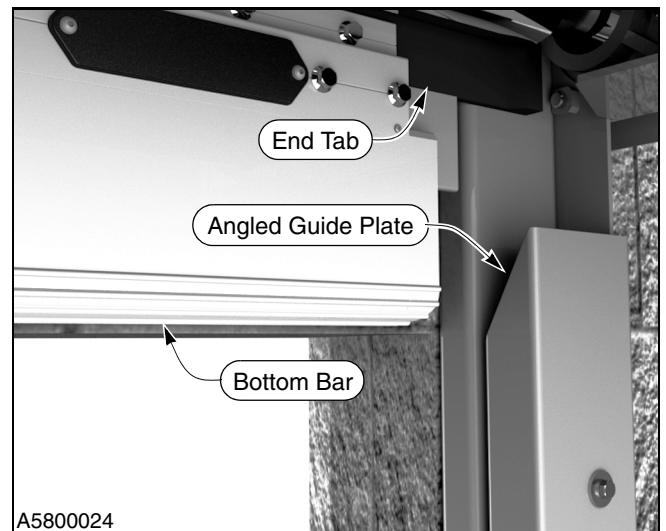

Figure 5
1. Position the end tabs of the bottom bar in front of the side column where the angled guide plate is located on the side column. (See Figure 5.)